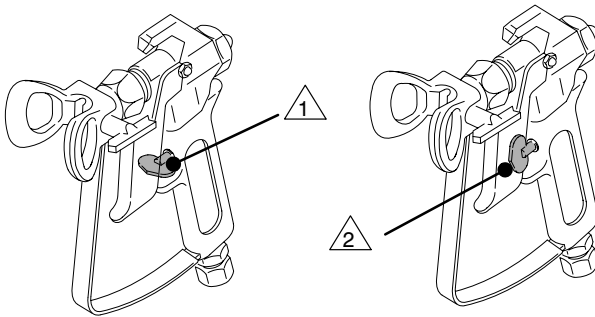

Fig. 3
When engaged, the gun safety latch prevents the gun from accidental triggering. See Fig. 3.
4. **Turn the pressure knob (64) to the minimum setting.**
5. **Disengage the gun trigger safety.** See Fig. 3, page 7.